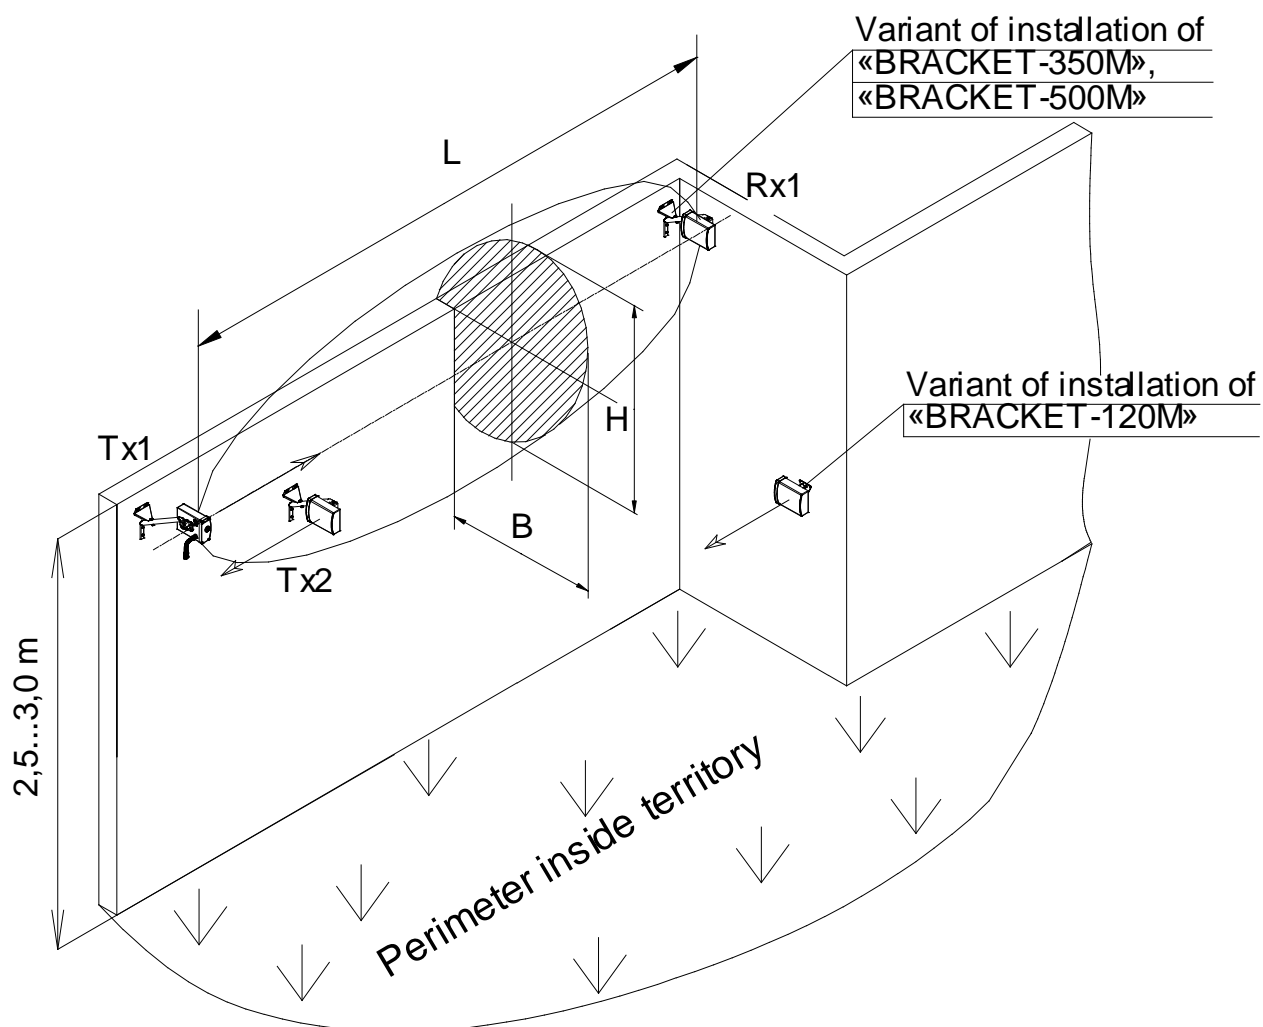

Figure 2.9 – Examples of installation of the sensors using the outboard brackets BRACKET-500M, BRACKET-350M, BRACKET-120M
- 2.3.6.4 The examples of installation of the sensors using the outboard brackets BRACKET-500M, BRACKET-350M, BRACKET-120M are given in Figure 2.9.